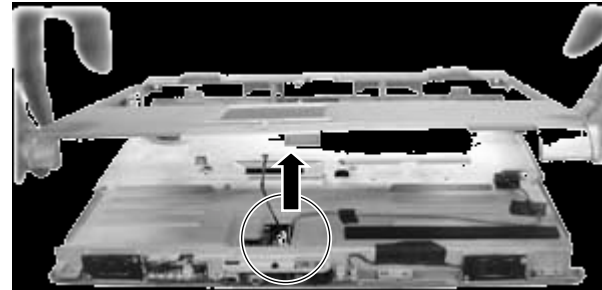

Figure 2-23 Lift up the base unit cover
5. Lift up the base unit cover and disconnect the touch pad cord. (Figure 2-23)